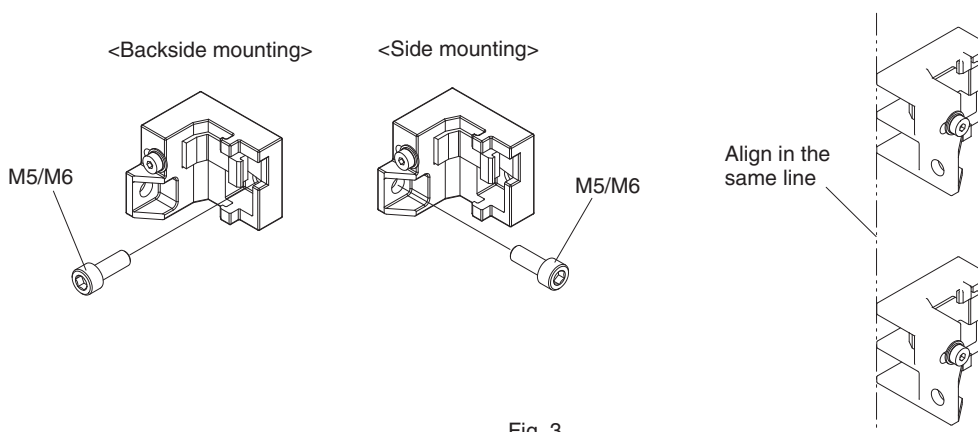

Fig. 3
- Securely tighten screws to fix the Side-Mount Bracket to the mounting position of the wall surface. When more than one Side-Mount Brackets, align them in the same line using the sides of the brackets that do not face the wall, before attaching the brackets to the sensor. (Fig. 3)